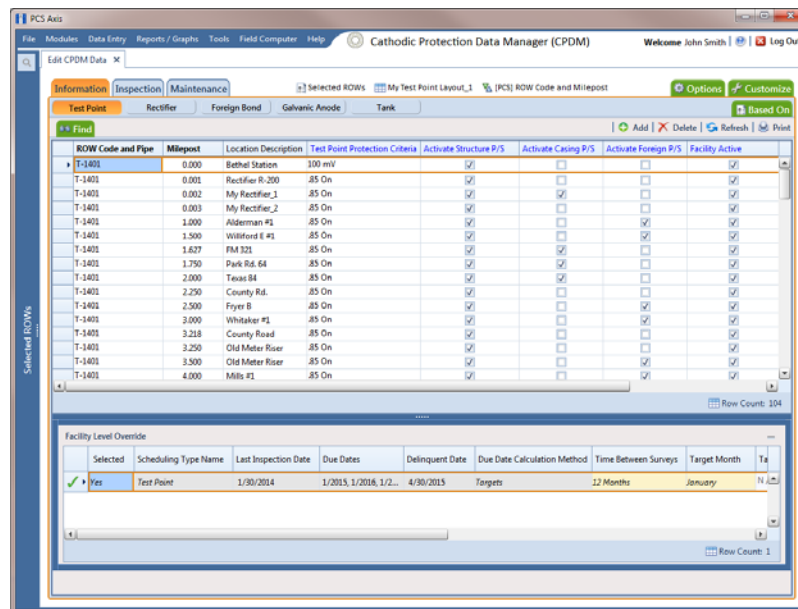

Figure 7-5. Information Grid
- 3 Open the *Edit <module> Data* window. For example, click **Data Entry > Edit CPDM Data** to open the *Edit CPDM Data* window (Figure 7-5, page 219).